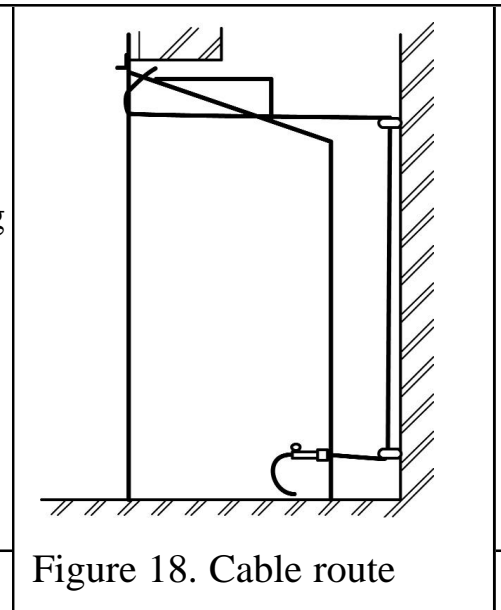

Figure 18. Cable route
6. Thread the cables through the eyebolts. Return the cables through the holes near the bottom of the hotbox back panel (See figure 18) (**For precast or clay block flue systems return the cables through the slotted holes in the side of the hotbox.**)